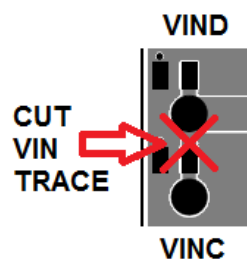

Figure 4. Separate V_{IN} Pairs by Cutting Traces at Terminals
3. The DC2182A is set up with the following power stage switch nodes and V_{IN} nodes connected together; A & B, C & D, E & F, and G & H. Any configuration using 1A or 3A regulators will require one or more of the V_{IN} and switch nodes to be separated. Refer to Table 1 to determine which power stages are connected together and separated. Cut the required V_{IN} traces on the bottom of the board near the V_{IN} terminals as shown in Figure 4.